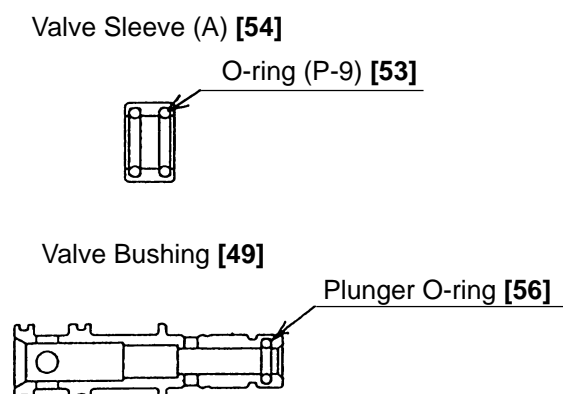

Fig. 17
- With the roll pin puller (3 mm (0.118") dia.), take out the Roll Pin D3 x 30 [52], and remove the Trigger [51], Trigger Plunger [65], Plunger (B) Spring [58], Washer M5 [57] and Plunger (B) [59].
- After removing the Trigger Valve Bushing [64], pull down strongly on the Valve Bushing [49] to remove the Valve Bushing [49], Valve Sleeve (A) [54], Plunger (A) [48] and the Plunger Spring [46].
- Remove the Plunger O-ring [56] inside the Valve Bushing [49] and the two O-rings (P-9) [53] inside Valve Sleeve (A) [54] by means of a setting pin with a rounded tip (Fig. 17).